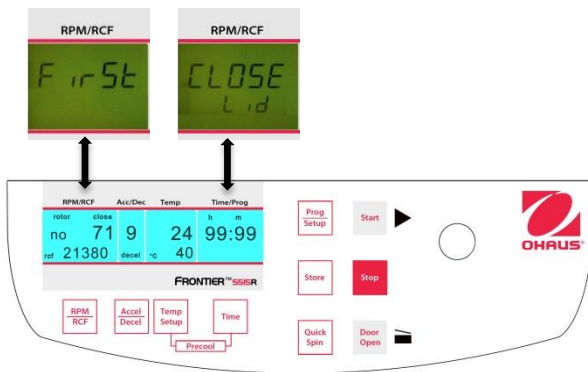
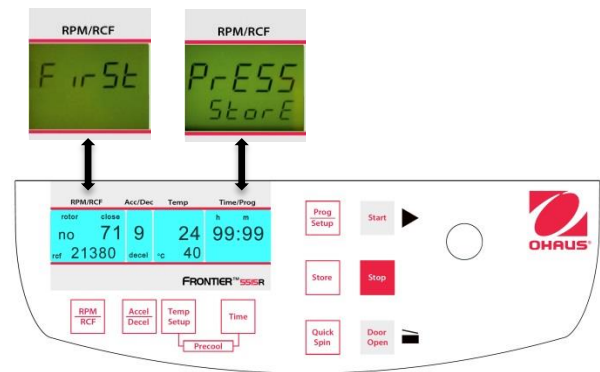

Figure. 23
Figure. 24
Lose the lid of the centrifuge. Now proceed as described previously to set all important run parameters. If the lid isn't closed when storing the program, in the display **"RPM/RCF"** (A-1), the words **"FirSt"** and **"CLOSE Lid"** (See figure 23) flashes alternately. If you want to start the run without storing the program, in the display **"RPM/RCF"** (A-1), the words **"First"** and **"PrESS StoreE"** (See figure 24) flashes alternately.
For adaption of data press the key **"Store"** (12) (refer to figures 23 and 24) for approx. 1 second. If the program is stored correctly, the word **"StoreE"** appears in the display **"RPM/RCF"** (A-1). As a result, the word **"programm"** (M10) disappears.